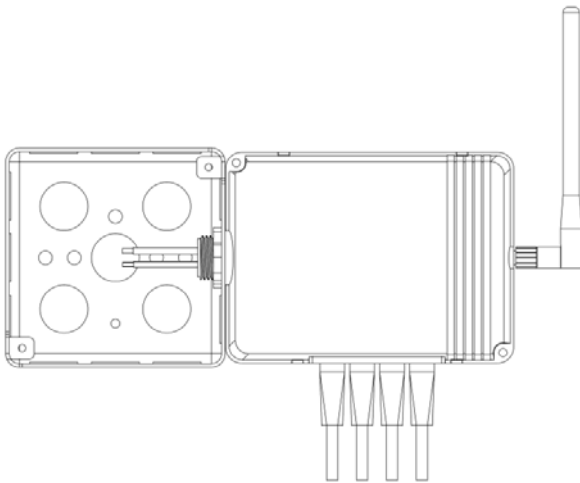

Figure 1: Smart Pack mounted to 4x4 junction box
1. DO NOT DISCARD THE INCLUDED MAC ADDRESS LABELS. SEE STEP (5) BELOW.
3. Mount the Smart Pack (SP) to the outside of a junction box using the Smart Pack's extended ½" chase nipple. Secure to box with enclosed EMT nut. (See Figure 1)